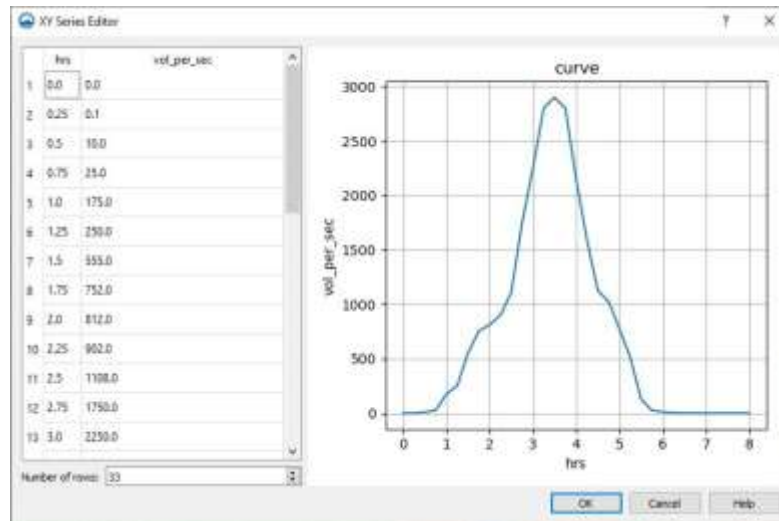

Figure 2 XY Series Editor dialog once values are entered
11. Copy the values from the *Flow (cms)* column in the “InflowHydrograph.xls” file to the *vol_per_sec* column in the *XY Series Editor* dialog. The graph should appear as in Figure 2.